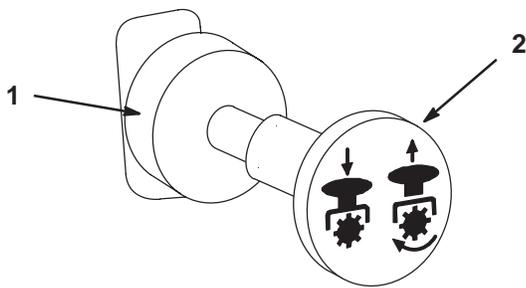

Figure 8
3. Pull out on the power take off (PTO) switch to engage (Fig. 8).
1. To disengage push the PTO switch to the off position (Fig. 8).